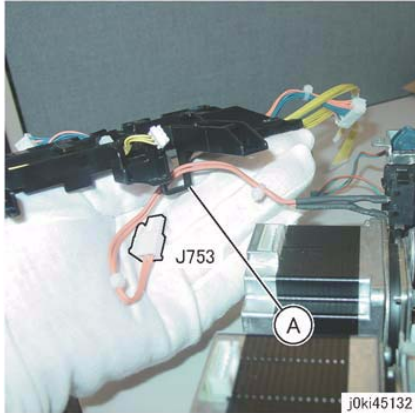

Figure 6 J753 Harness Hook
2. Hang the J753 wire harness to the hook (A). (Figure 6)
- (A)Hook